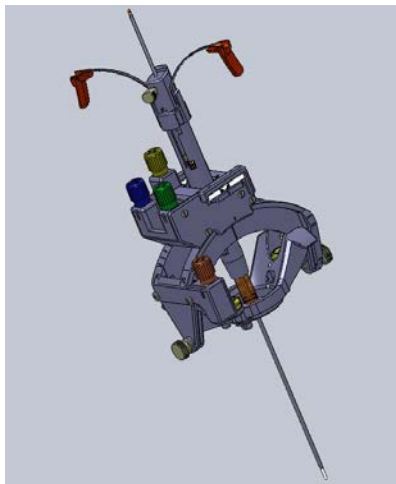

Figure 21: SMARTFrame with Stylet Assembly inserted and snap locked into place.
20. As insertion approaches the full measured target depth, orient the Dock such that the white lines of the Dock match up with the white lines on the flat aspects of the Device Guide Cap. **See Figure 21 for Stylet Assembly inserted into SMARTFrame XG.**